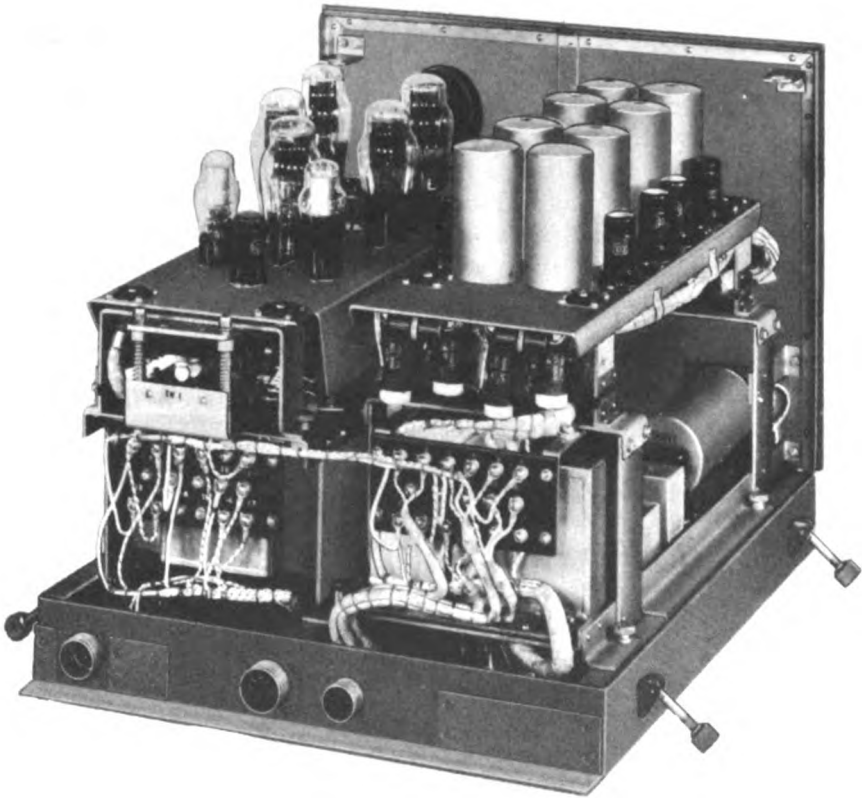

FIG. 3. CALIBRATOR BC-725-A, REAR VIEW, COVER REMOVED
## 2. OSCILLATOR AND FREQUENCY MULTIPLIERS (Figs. 3, 4, 5)
3. POWER SUPPLY UNIT (Figs. 3, 4, 5)